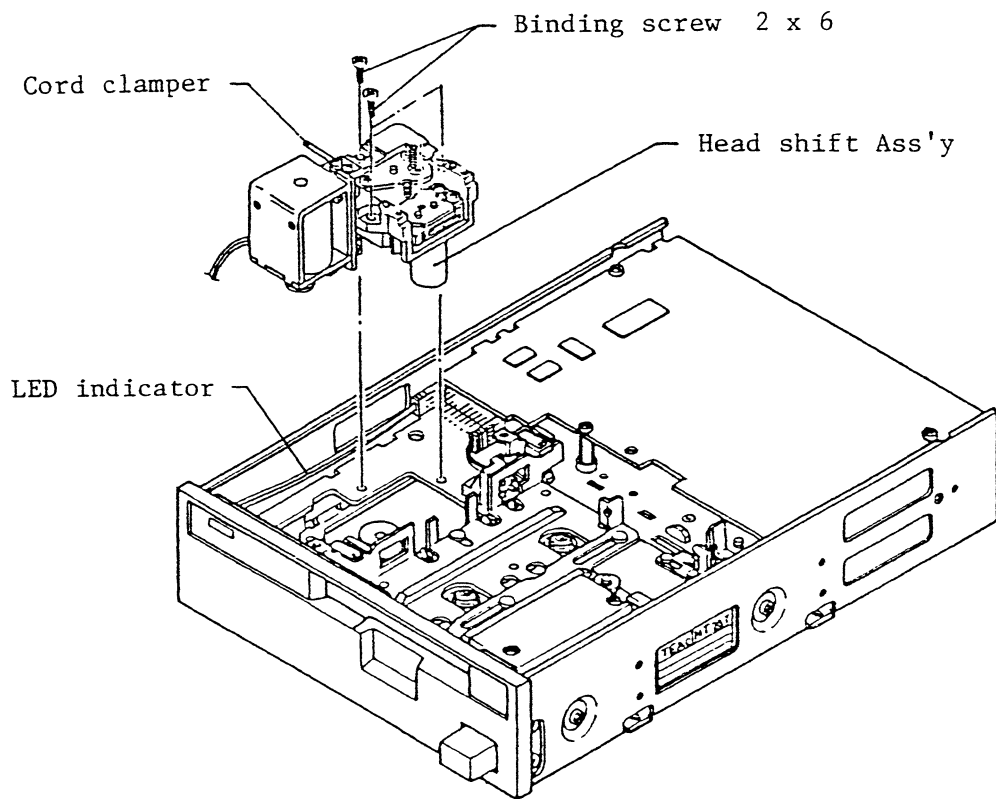

Fig.451 Replacement of head base Ass'y (2)
- (j) Remove the three mounting screws from the head base Ass'y, and detach the head shift Ass'y from the main unit by lifting it (Fig. 451).